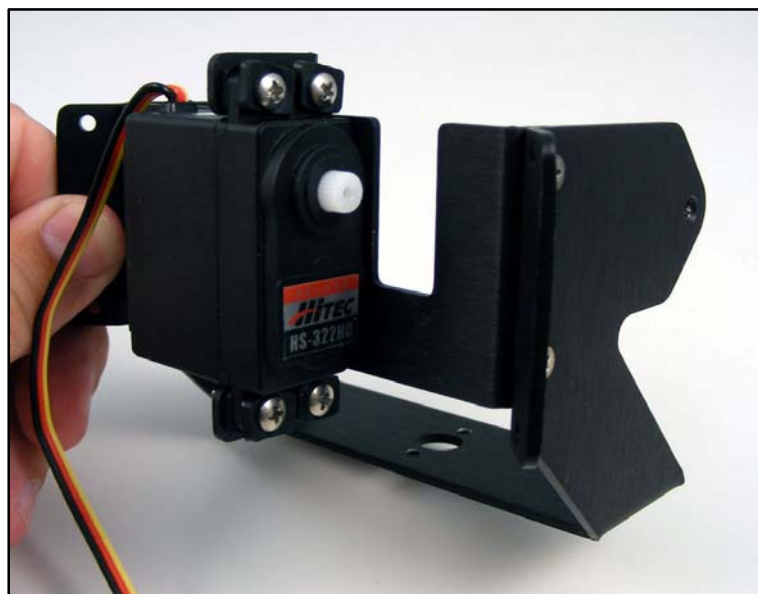

Figure 13
- 7.) Attach servo to rear plate mounts using four 4-40 x 1/2 Pan Head screws and 4-40 nuts as shown in Figure 13, 14, and 15.